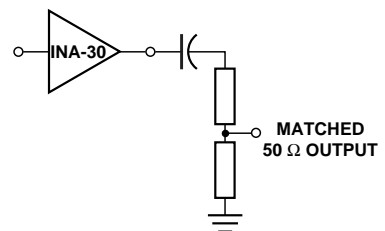

Figure 11. Impedance Matched Output.
- A second implementation, shown in Figure 11, uses a simple reactive network at the amplifier’s output to match the output impedance to $50\ \Omega$.
This section describes a demonstration circuit for 900 MHz that is based on the matched output configuration shown in Figure 11.